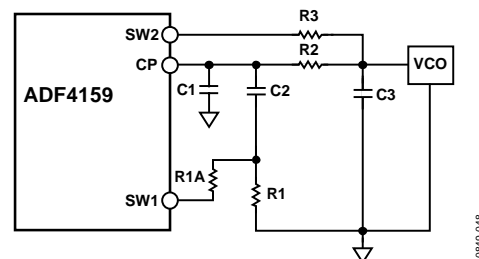

Figure 53. Fast Lock Loop Filter Topology 2
- Connect an extra resistor (R1A) directly from SW1 (see Figure 53). The extra resistor must be selected such that the parallel combination of an extra resistor and the damping resistor (R1) is reduced to ¼ of the original value of R1.